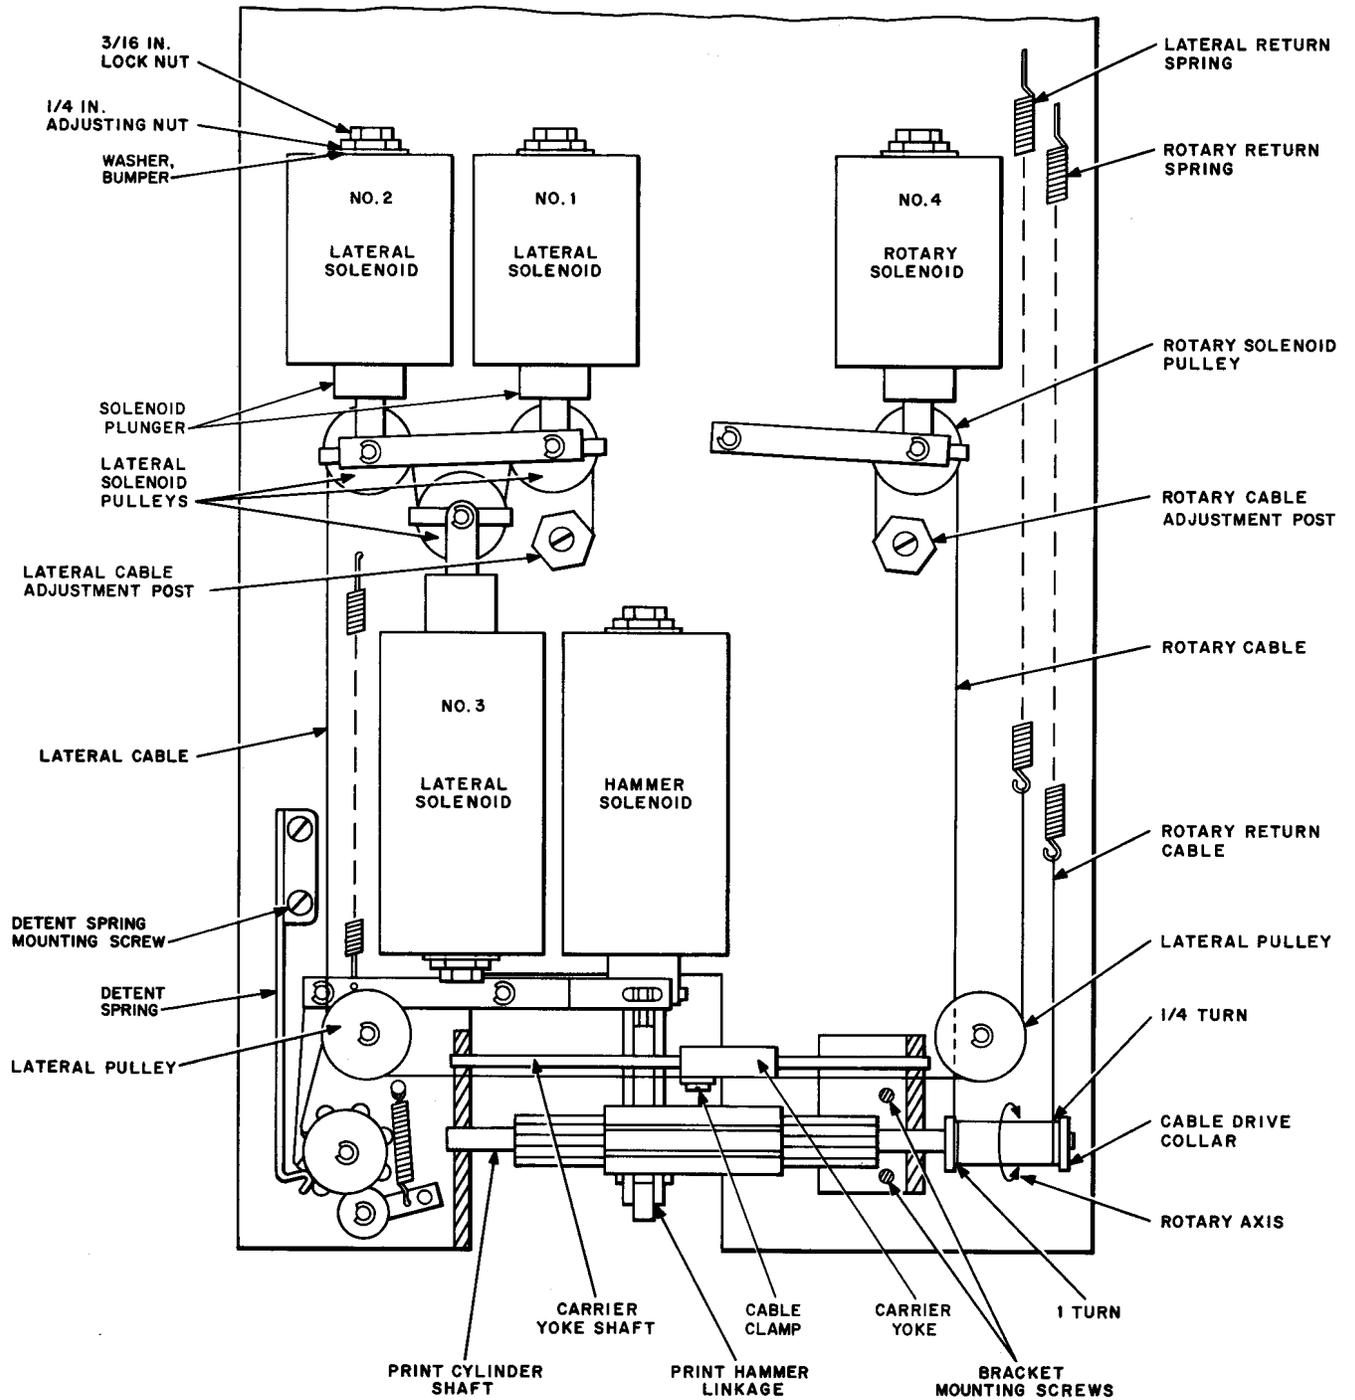

Fig. 2—Functional Diagram of KS-19717 L5 Tape Printer
- Revise Fig. 2 and 3.
3.002 In order to make the adjustments covered herein, remove the tape printer from service. The equipment cover must be removed to gain access to the components. Fig. 2 illustrates the relative position of the components that may require adjustment.